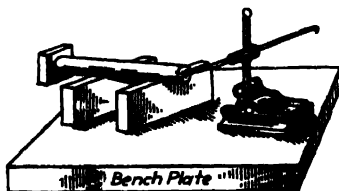

Fig. 12-7. Using a surface gage to locate the center. (*The South Bend Lathe Works*)
**Surface-gage Method** (Fig. 12-7). When the center in an irregular-shaped casting or forging is required, a surface gage may be used (see Chapter 6, pages 155-156). For example, a bolt blank may be forged with the head offset. If the head is centered true, the body of the bolt will run out of true and may not clean up. To properly center such a